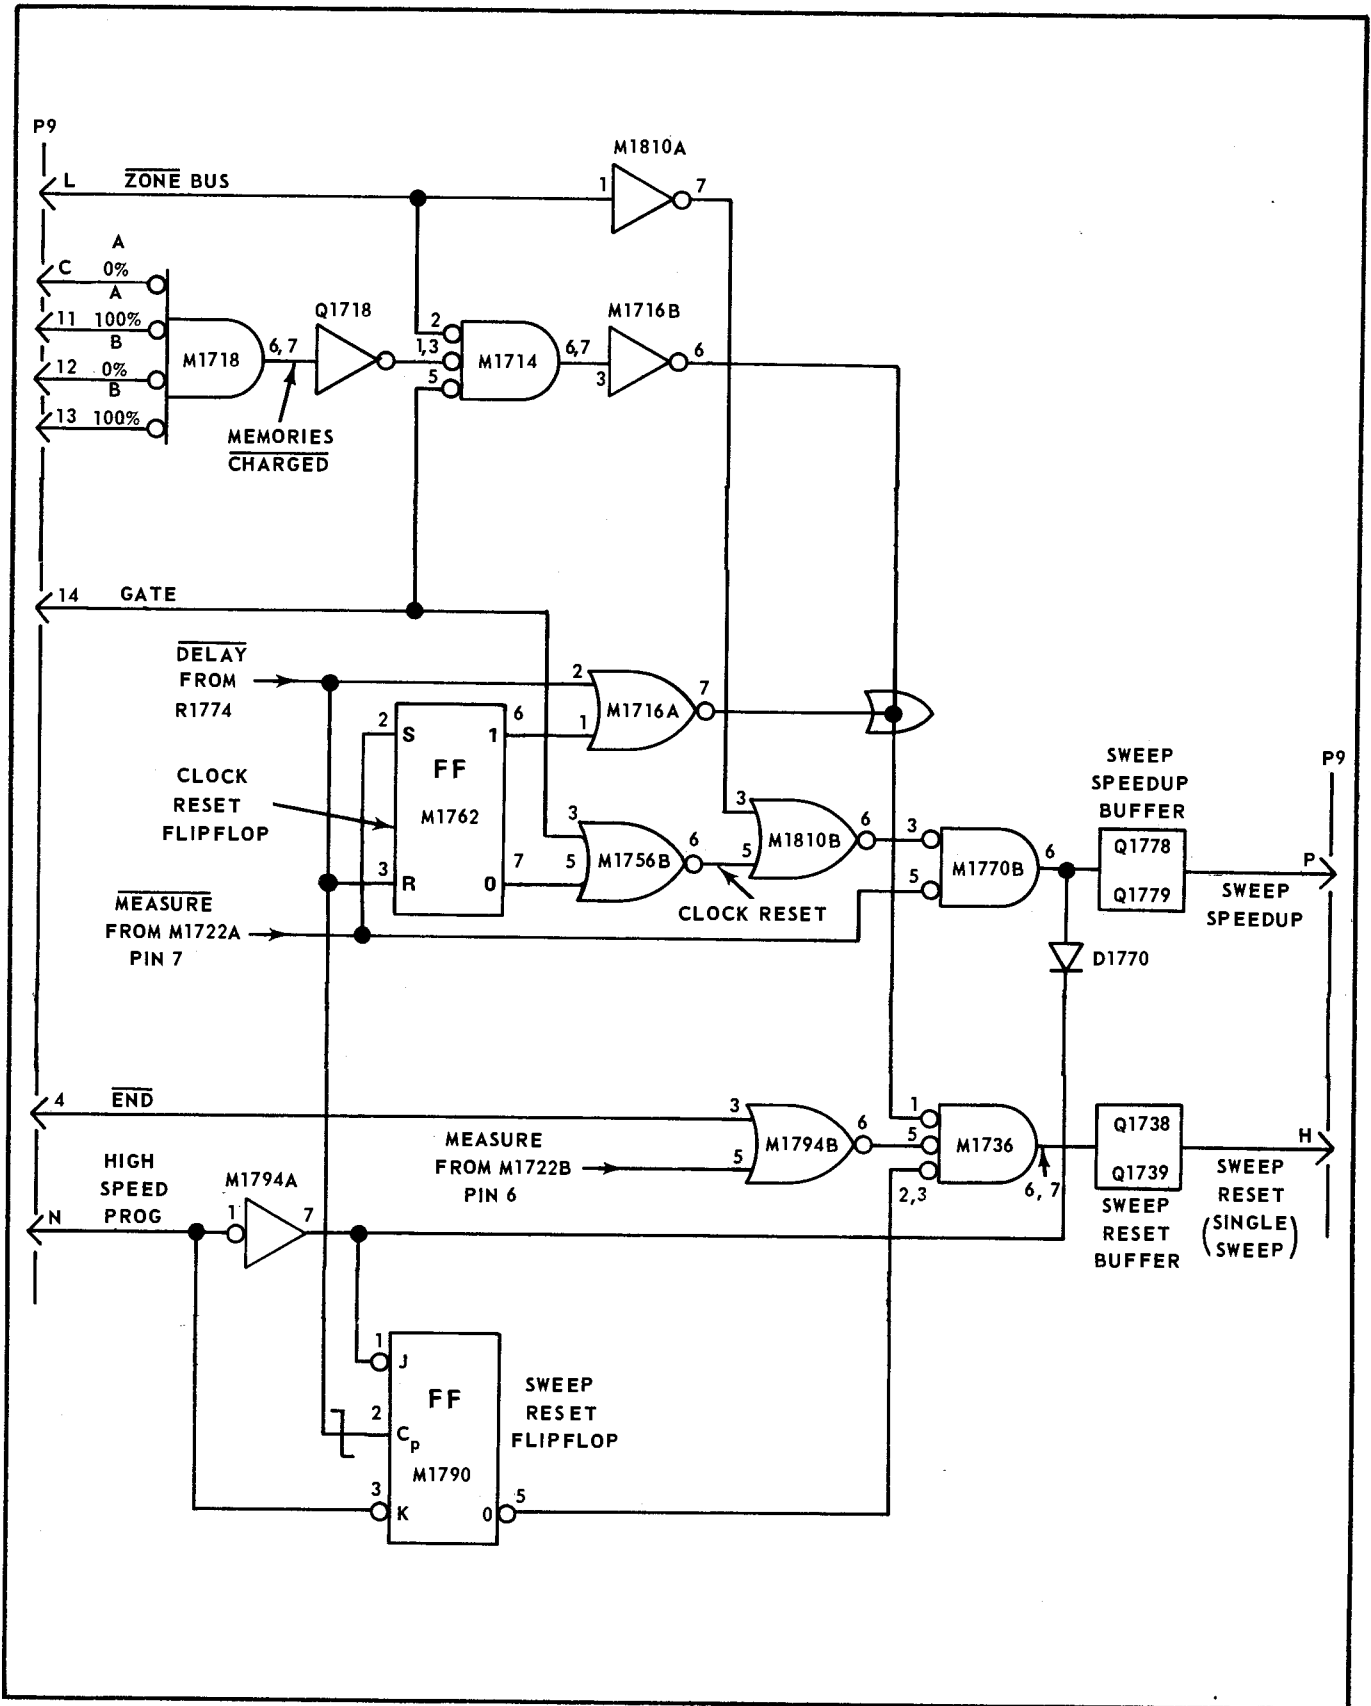

Fig. 4-31. SWEEP SPEEDUP and SWEEP RESET signal generation (synchronizer model 3-up).
The high-speed program functions are selected by applying a low level to P9 pin N of the synchronizer (see Fig. 4-31) by way of rear-panel connector J204. The SWEEP SPEEDUP and SWEEP RESET control signals that results are sent to the sampling-sweep unit through P9 pins P and H. When using the Type 3T5 or 3T6 plug-in units, pins P and H are high except when the high-speed function (sweep speedup or reset) is active. When using the Type 3T4, pins P and H are negative (−12 volts) except when the high speed function is active. Buffers Q1778-Q1779 and Q1738-Q1739 act as inverters with the Type 3T5 or 3T6, and as non-inverting level-changing circuits with the Type 3T4.
**Sweep Reset (Single Sweep).** Instrument turn-on presets sweep reset flipflop M1790 through C1790 so that output pin 5 is high. This is the state of the flipflop for normal (not high-speed) operation. If HIGH SPEED PROGRAM is not selected, the high at P9 pin N is applied to pin 3, the K input of M1790, and a low is applied by inverter M1794A to pin 1, the J input of M1790 (see Fig. 4-31). When DELAY occurs, the negative-going edge at the end of DELAY is applied to